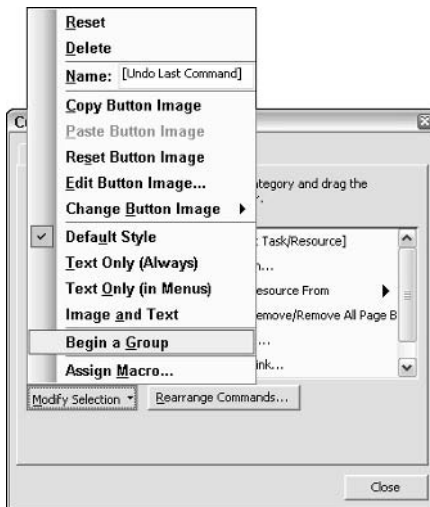

Figure 23-25: This menu offers options to work with button images as well as options to modify other toolbar features.
6. You can add dividers (thin gray lines) to separate groups of tools on your new toolbar. Select the tool that you want to place to the right of the divider, and click the Modify Selection button on the Commands tab. The menu shown in Figure 23-25 appears.